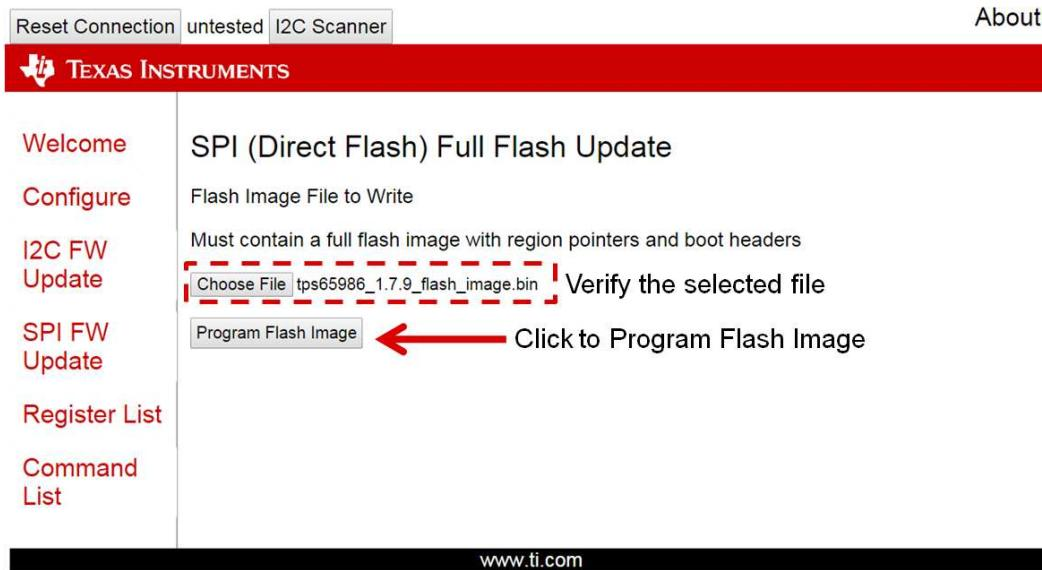

Figure 14. SPI Firmware Update – Start Flash Update
- Step 7. Click the *Program Flash Image* (see Figure 14).